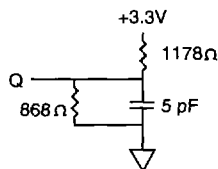

Figure 3
- Output loading is specified with  $C_L = 5pF$  as in Figure 3. Transition is measured  $\pm 200mV$  from steady state voltage. These parameters are sampled.